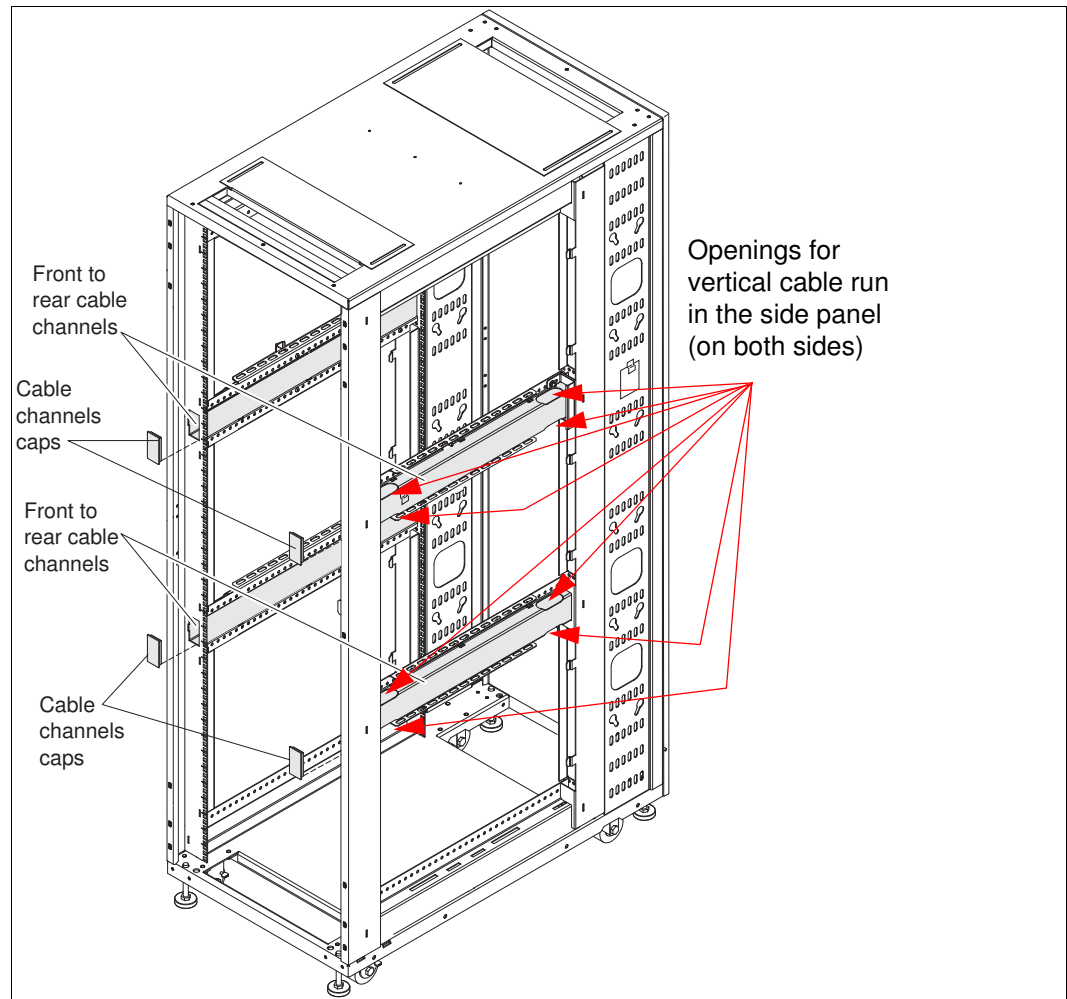

Figure 5-9 Front to rear cable channels
- A front stabilizer bracket, which can be used to secure the rack to the floor, as shown in Figure 5-9.